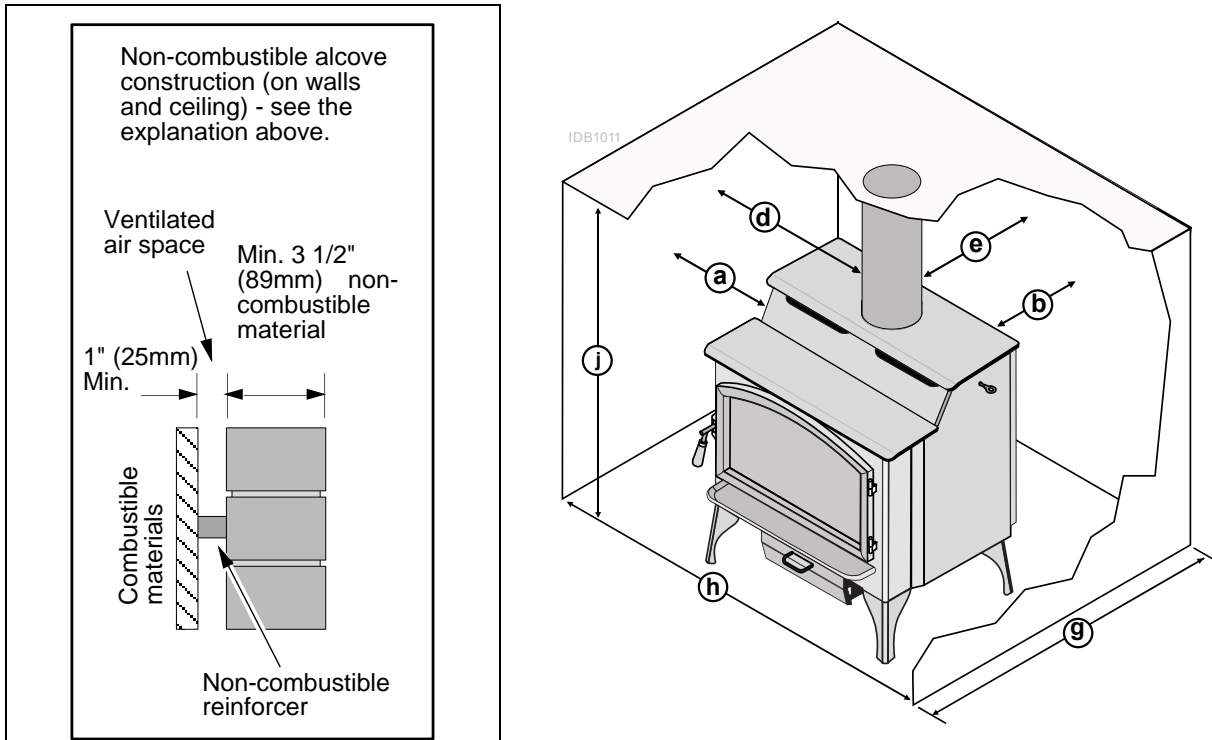

Figure 7
- Alcoves are classified as combustible or non-combustible. Non-combustible alcoves must have walls and a ceiling that are 3-1/2" (89mm) thick of a non-combustible material (brick, stone, or concrete - see Figure 7). This non-combustible material must be spaced and ventilated at least 1" (25mm) off of all combustible materials (walls, ceiling, etc.) to allow air to move around the non-combustible walls and ceiling. All other alcoves are considered combustible. The clearances below must be met: